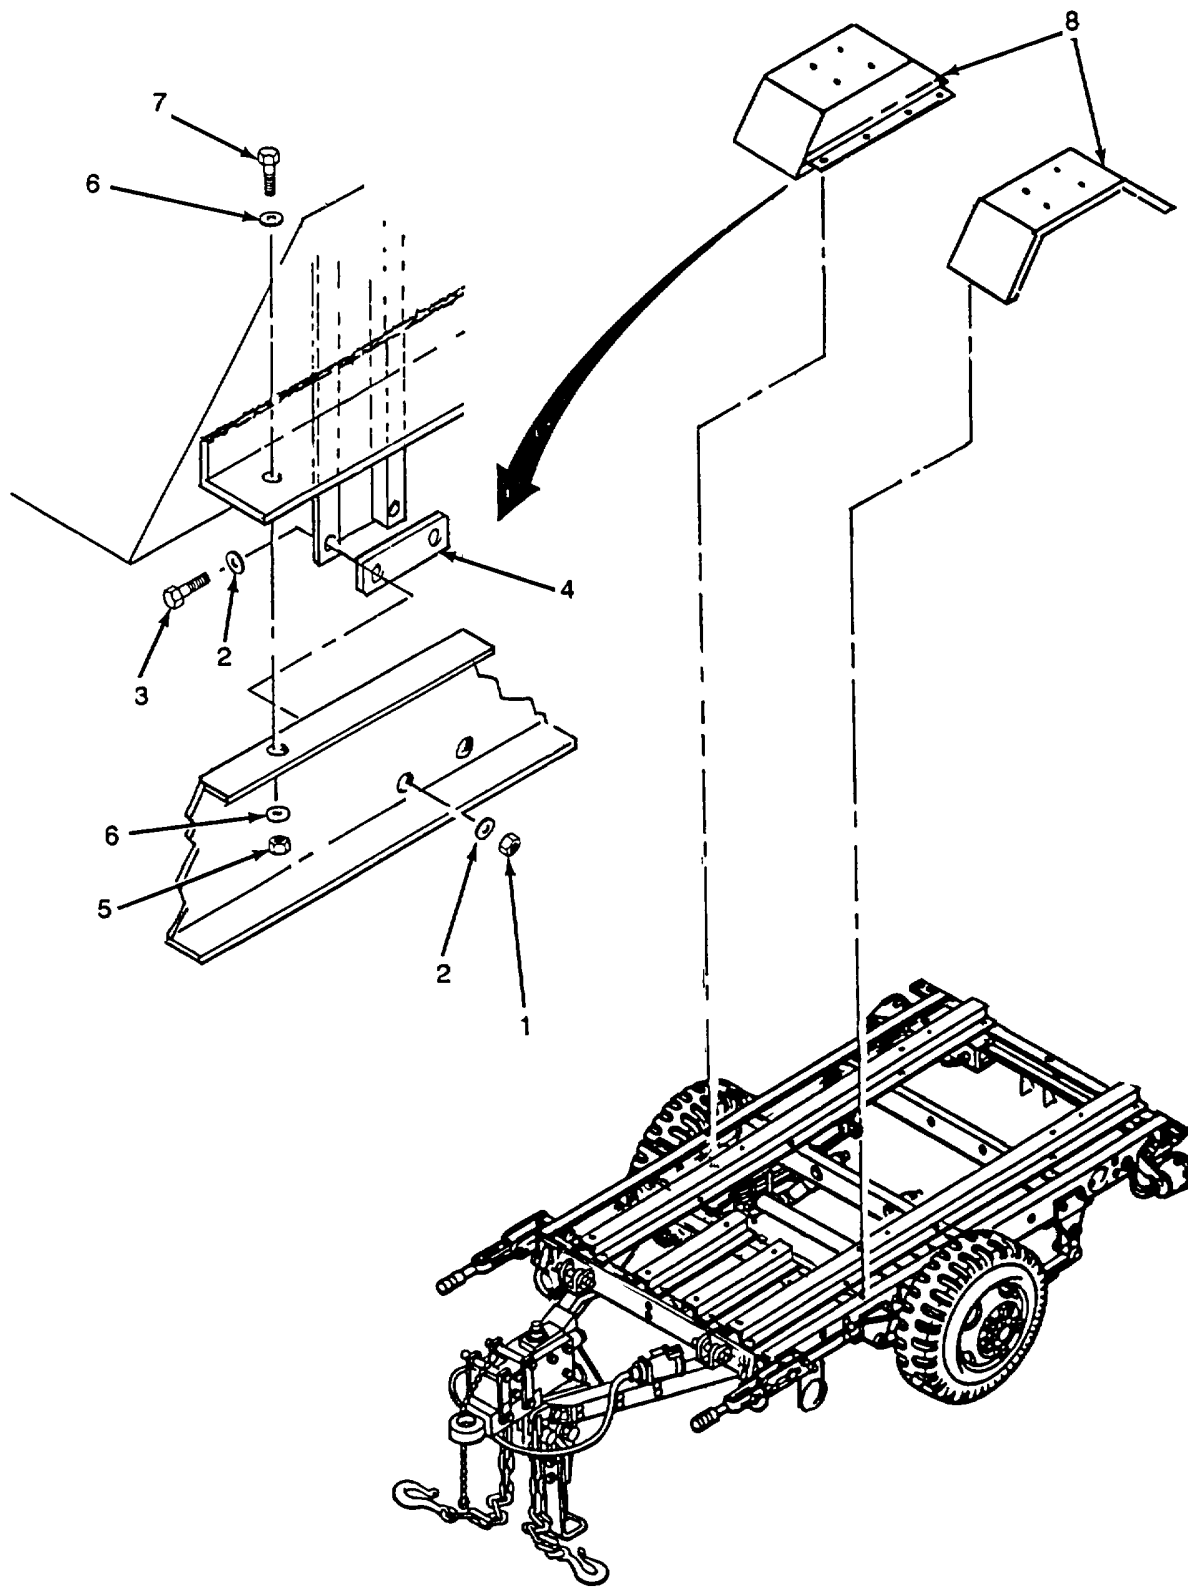

Figure 4-17. Fender.
**4-26. FENDER (Figure 4-17).**